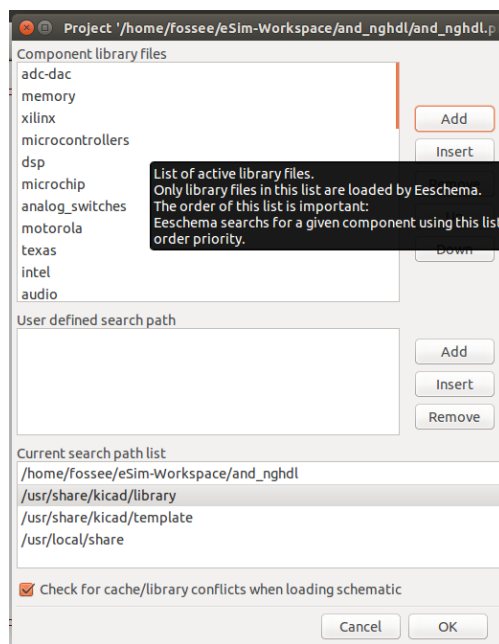
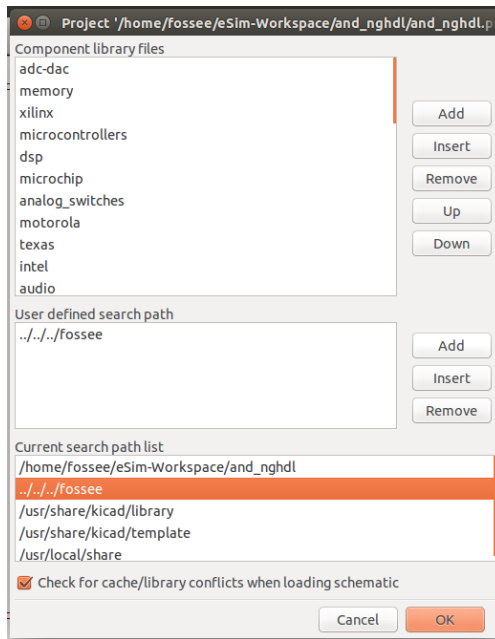

Figure 9.4: Importing the digital model in KiCad
Figure 9.5: Selection of library
1. After uploading the model, you can create the schematic of your design by clicking on *Open Schematic* button on the left pane of the eSim window. Then go to *Preferences* option on top of the window and click on *Component Libraries* to add the KiCad model created in the previous step. Following window will appear as shown in Fig. 9.4, where you will have to click on *Add* button and select the *esim-kicad* library by browsing to the home folder. Refer Fig. 9.5.